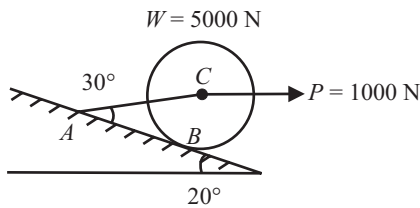

Fig 6.76
Q. 63: A right circular roller of weight 5000N rests on a smooth inclined plane and is held in position by a cord AC as shown in fig 6.76. Find the tension in the cord if there is a horizontal force of magnitude 1000N acting at C. (May-02-03)